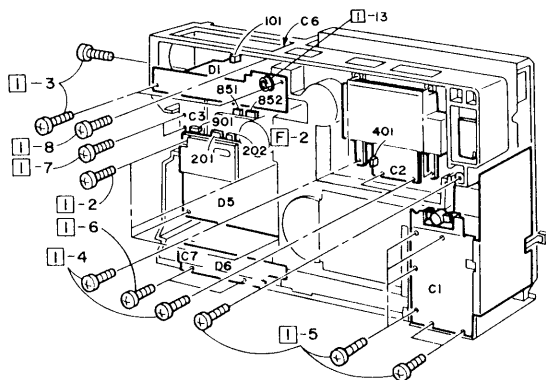

Figure 5-3
2. Pull out four sockets (CNS201, CNS202, CNS851, CNS852) shown in Figure 5-3.
- Remove three screws and one socket (CNS401) from the P.W.B. shown in Figure 5-3, and take it off.
- Remove one socket (CNS401) and six screws from the P.W.B. and heat sink shown in Figure 5-3, and take the P.W.B. (with heat sink) off.
- Remove seven screws from the power block shown in Figure 5-3, and take it off.
- Remove two screws from the bracket shown in Figure 5-3, and take it off.
- Remove one socket (CNS901) and two screws from the P.W.B. shown in Figure 5-3, and take it off.
- Remove one socket (CNS101) and one screw from the P.W.B. shown in Figure 5-3, and take it off.
- Remove two nuts from the P.W.B. shown in Figure 5-3, and take it off.
- Remove one nut from the P.W.B. shown in Figure 5-3, and take it off.
- Remove two hooks from the antenna terminal shown in Figure 5-3, and take it off.